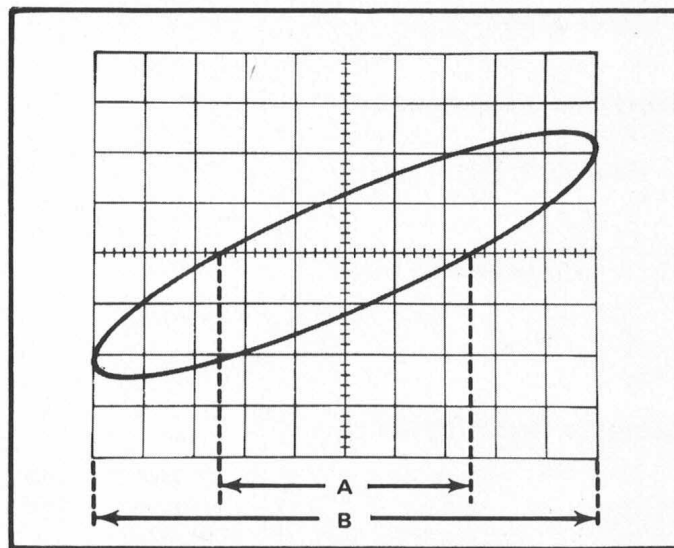

Fig. 11. Phase-difference measurement from an X-Y display.
3. Position the display to the center of the screen and adjust the CH 1 and CH 2 VOLTS/DIV switches to produce a display less than eight divisions vertically (Y) and less than 10 divisions horizontally (X). The CH 1 VOLTS/DIV switch controls the horizontal deflection (X) and the CH 2 VOLTS/DIV switch controls the vertical deflection (Y).
4. Center the display in relation to the center graticule lines. Measure the distance A and B as shown in Fig. 11. Distance A is the horizontal measurement between the two points where the trace crosses the center horizontal line. Distance B is the maximum horizontal width of the display.
Example. To measure the phase of the display shown in Fig. 11 where A is 5 divisions and B is 10 divisions, use the formula: